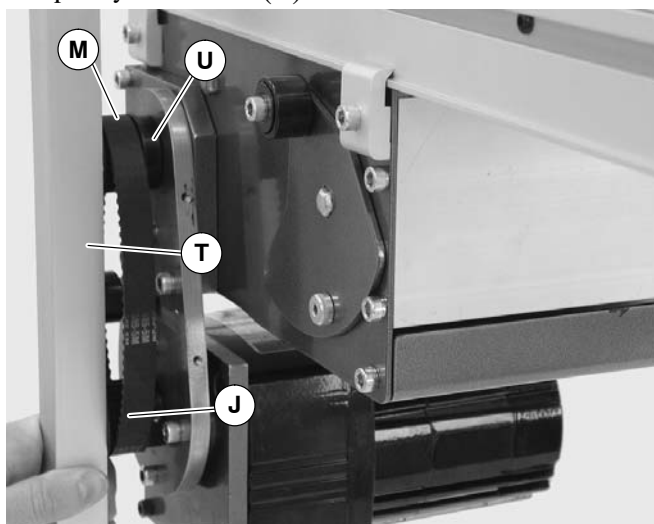

Figure 7
5. Wrap timing belt (P) around driven pulley (M) and drive pulley (J). Install driven pulley (M) onto conveyor shaft.
6. Using a straight edge (T of Figure 7), align driven pulley (M) with drive pulley (J). Tighten driven pulley set screws (U).